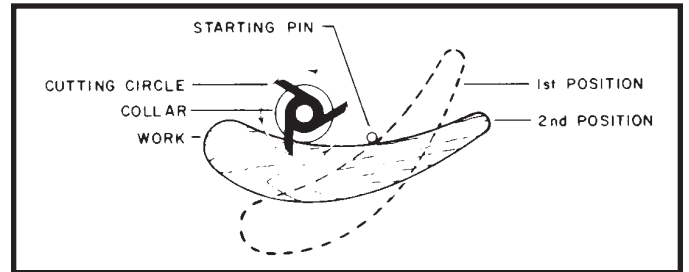

Fig. 69
3. The work should be placed in the first position using the guide pin as a support, as shown in Fig. 69. Then swing the work into the cutter as shown in the second position. The work will now be supported by the collar and starting pin as shown in Fig. 69.